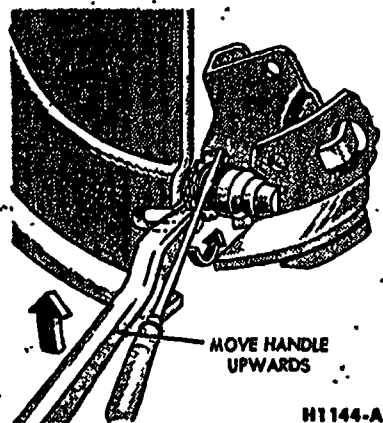

FIG. 6—Backing Off Brake Adjustment
2. Insert a narrow screwdriver through the brake adjusting hole at the inner side of the brake carrier plate, and disengage the adjusting lever from the adjusting screw. While holding the adjusting lever away from the screw, back off the adjusting screw with the brake adjusting tool (Fig. 6). Be very careful not to burr, chip, or damage the notches in the adjusting screw; otherwise the self-adjusting mechanism will not function properly.
2. Remove the hub cap and wheel. Remove the three Tinnerman nuts and remove the brake drum. Insert a narrow screwdriver through the brake adjusting hole in the carrier plate, and disengage the adjusting lever from the adjusting screw. While holding the adjusting lever away from the adjusting screw, back off the adjusting screw with the brake adjusting tool (Fig. 6). Be very careful not to burr, chip, or damage the notches in the adjusting screw; otherwise, the self-adjusting mechanism will not function properly.